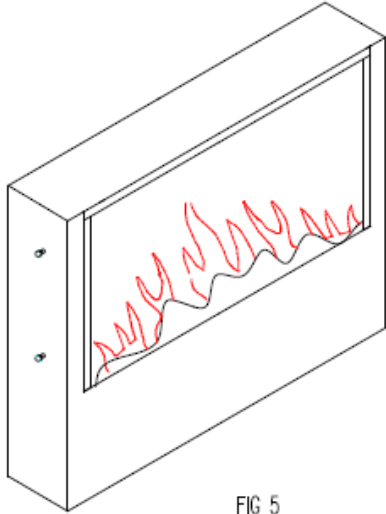

FIG 5
1. On each side of the fireplace are two locating studs. (Figure 5)